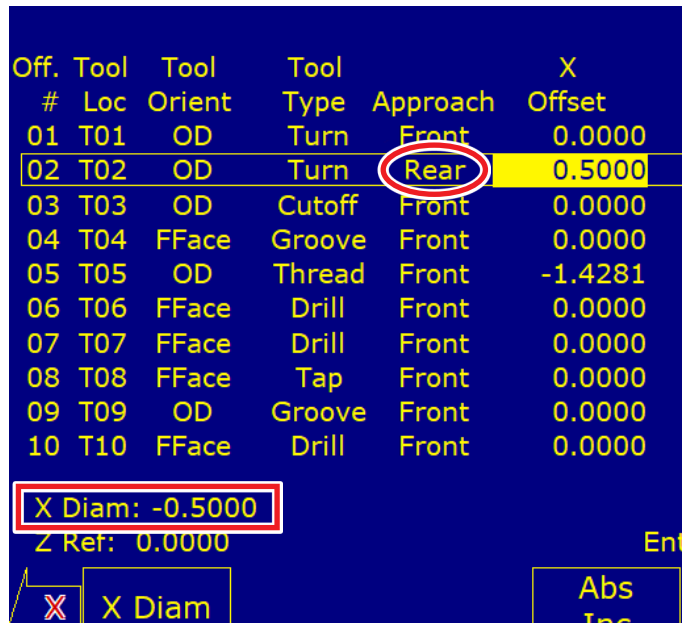

FIGURE 22
C. After you click on Save F10, the screen will show “X Diam: -0.5000” (see Figure 22).